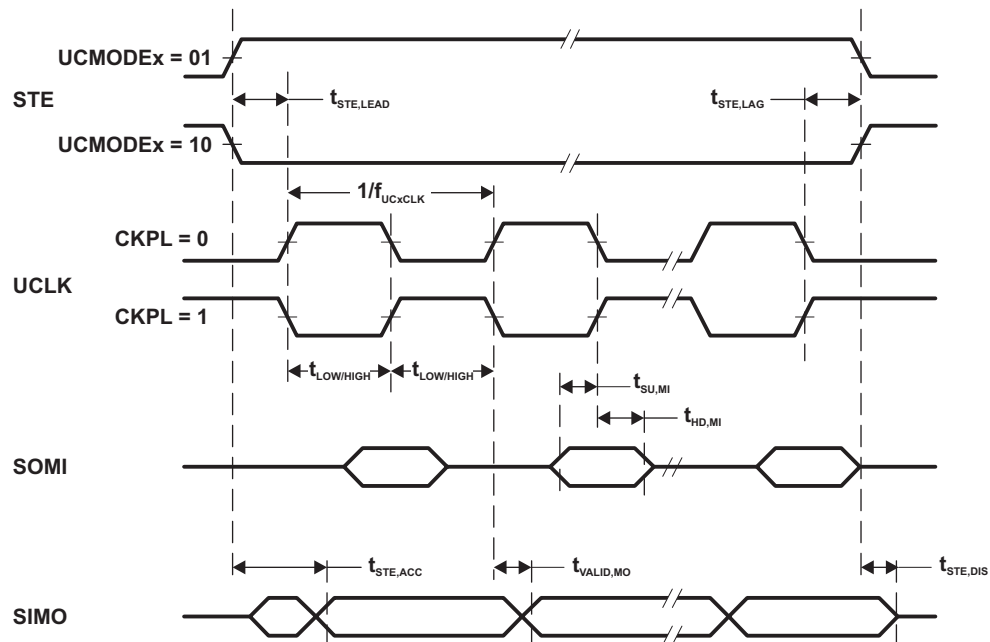
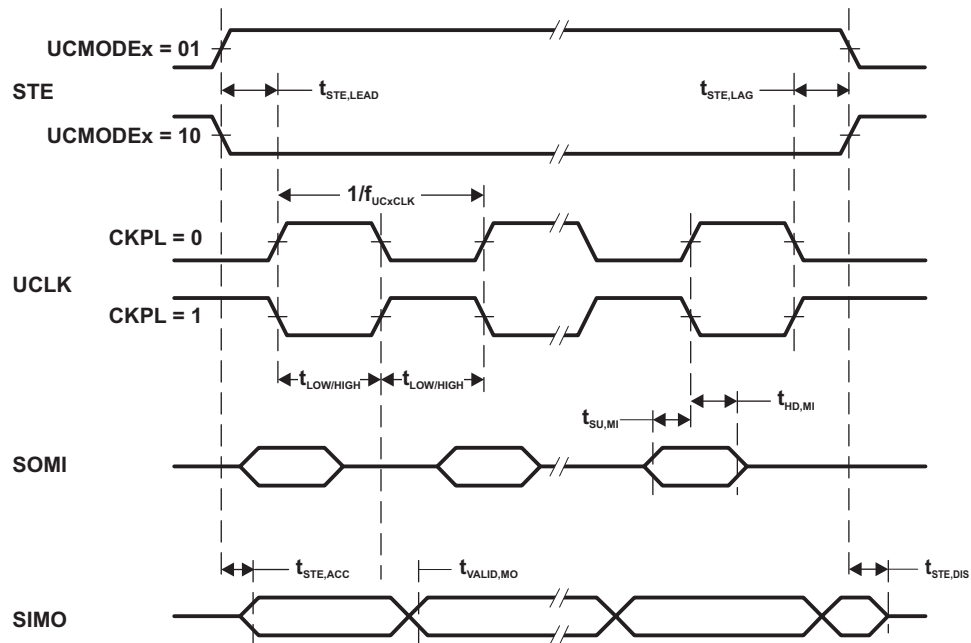

Figure 6. SPI Master Mode, CKPH = 0
Figure 7. SPI Master Mode, CKPH = 1
(2) Specifies the time to drive the next valid data to the SIMO output after the output changing UCLK clock edge. See the timing diagrams in Figure 6 and Figure 7.
(3) Specifies how long data on the SIMO output is valid after the output changing UCLK clock edge. Negative values indicate that the data on the SIMO output can become invalid before the output changing clock edge observed on UCLK. See the timing diagrams in Figure 6 and Figure 7.